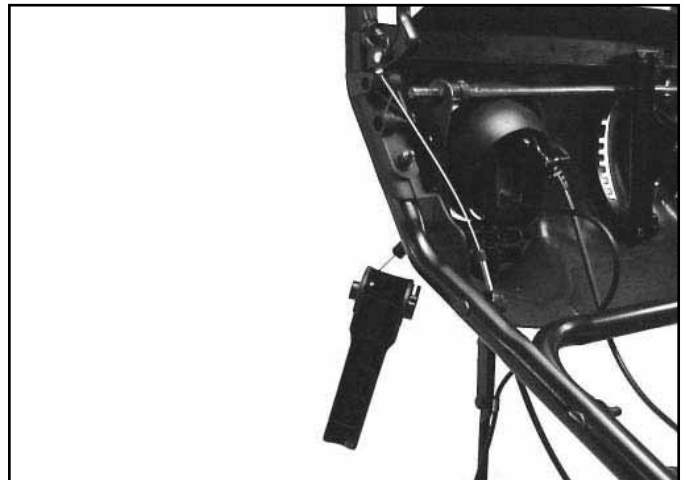

Fig 033
5. Since the auger and traction levers pivot on the lockout rod this is the method required to replace the levers (Fig. 033).